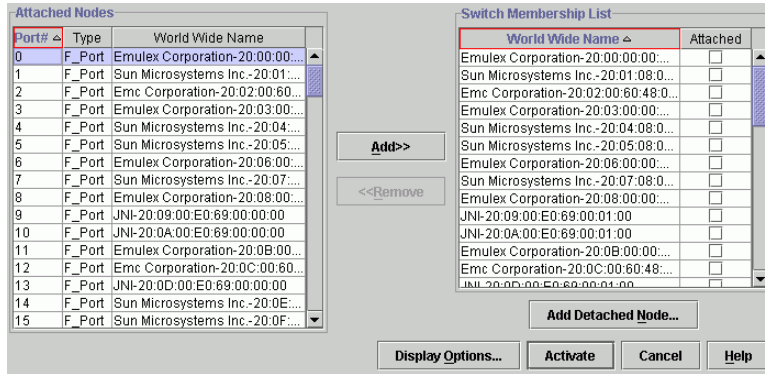

Figure 74 Switch Binding Membership List dialog box
1. Select **Configure > Switch Binding > Edit Membership List** from the Element Manager window. The Switch Binding Membership List dialog box appears, as shown in Figure 74.